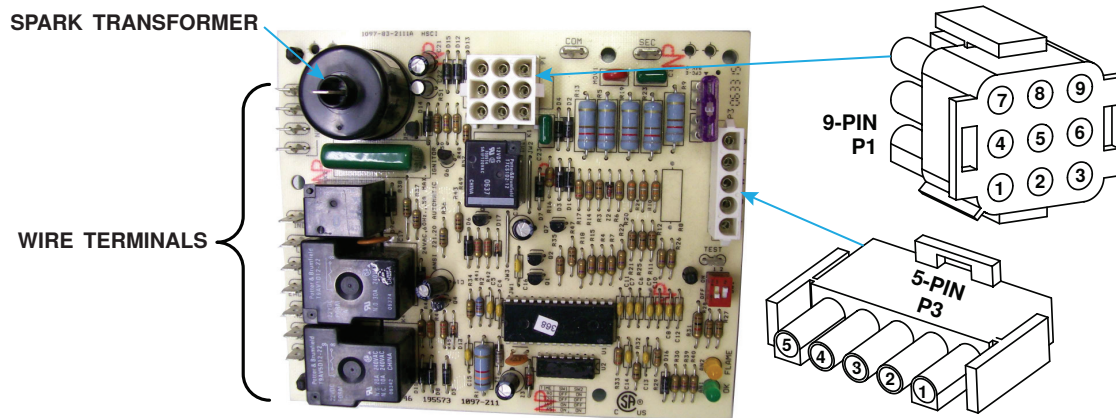

Figure 47. Replacement Ignition Controller (PN 195573)
- a. Position drill template (5), with painted side facing up, over mounting holes for ignition controller removed in step 2. Align holes for replacement controller toward bottom of panel.
- c. Position DSI control board (1) so that spark transformer is located nearest to spark electrode on burner. Snap control board into holes.
- b. Connect one end of replacement ignition cable (6) to spark electrode on burner and other end to spark transformer (see Figure 47) on replacement DSI control board (1).
- a. Connect P3 5-pin wire assembly (3) to thermostat terminal strip as shown in Figure 47.
- b. Connect P1 9-pin wire assembly (2) as shown in Figure 47. As necessary, shorten wires and install replacement terminals (8).
- c. Connect existing wires to DSI control board (1) wire terminals. If terminal on line voltage wire is 3/16 inch, cut off terminal, strip wire, and install quick connect terminal (7). Connect line voltage wire to terminal L1.
- d. Connect one end of 24-inch red wire assembly (4) to rollout switch located on burner box top. Connect other end to high limit switch wire lead using wire nut (9).
- e. Install cable ties (10) as necessary for routing and for excess wire length.